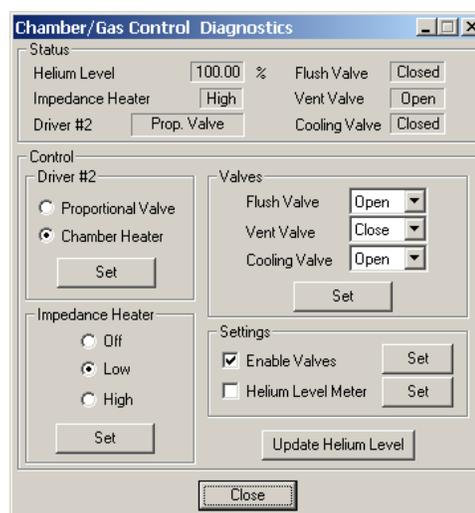

Figure 1. MPMS MultiVu Chamber/Gas Control Diagnostics dialog
2. When the MultiVu window appears, use the **Chamber/Gas Control Diagnostics** dialog box (Figure 1) to open the **Cooling** valve: